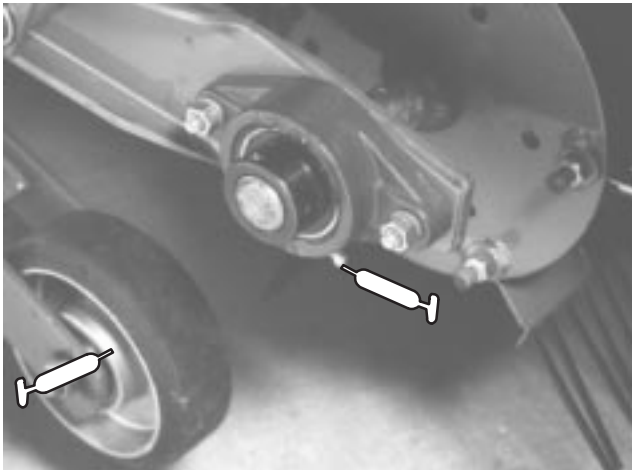
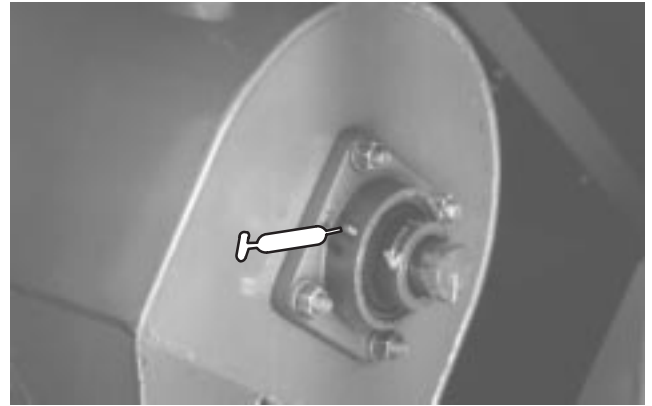
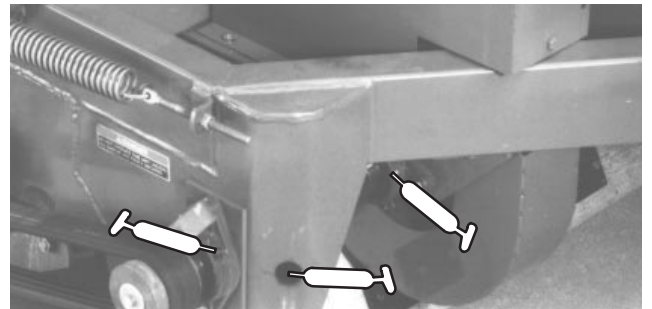

Figure 14
Figure 15
Figure 16
The Rake-O-Vac has grease fittings that must be lubricated regularly with No. 2 General Purpose Lithium Base Grease. Lubricate bearings after every 30 hours of operation or whenever machine is washed with water. Bearings and bushings must be lubricated daily when operating conditions are extremely dusty and dirty. Dusty and dirty operating conditions could cause dirt to get into the bearings and bushings, resulting in accelerated wear. The grease fittings that must be lubricated are the gauge wheel bearings (2) (Fig. 14); reel shaft bearings (2) (Fig. 14); impeller shaft bearings (2) (Fig. 15); Jackshaft bearings (2) (Fig. 16) left and right trailing arms (1 ea.) (Fig. 16).